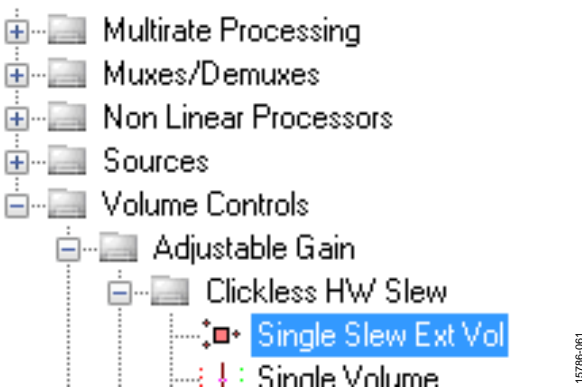

Figure 60. **Single Slew Ext Vol** Block Selection
- a. From the **Volume Controls > Adjustable Gain > Clickless HW Slew** folder, click **Single Slew Ext Vol** (see Figure 60), and drag it into the project space to the right of the toolbox.